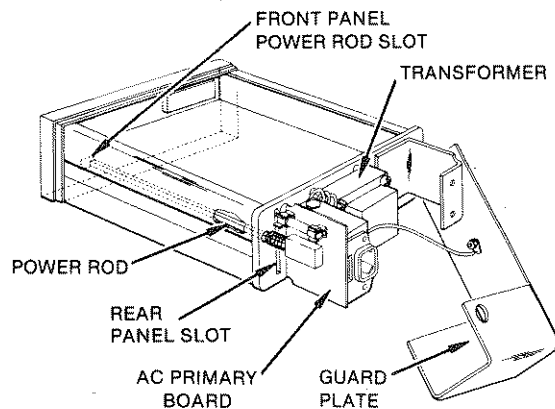
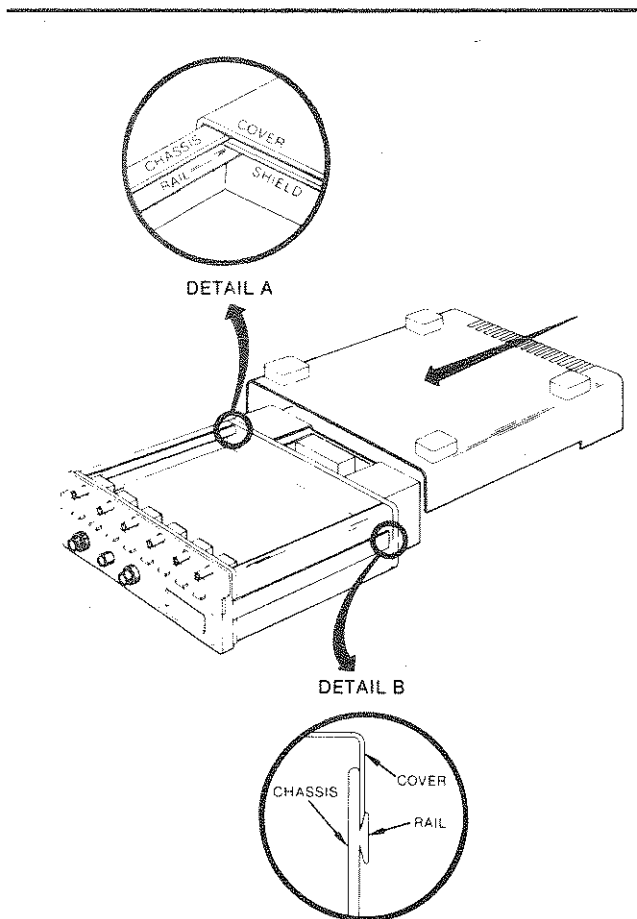

Figure 2-5. Rear Chassis Assembly
Figure 2-6. Top and Bottom Cover Installation
Refer to figure 2-5 for steps 1 thru 5 and figure 2-6 for steps 6 thru 8.
6. Turn the instrument upside down, position the bottom cover over the guard shield, and then slide the bottom cover forward approximately two inches while engaging the cover and slides (see figure 2-6, detail A and detail B). Don't slide the cover on yet.